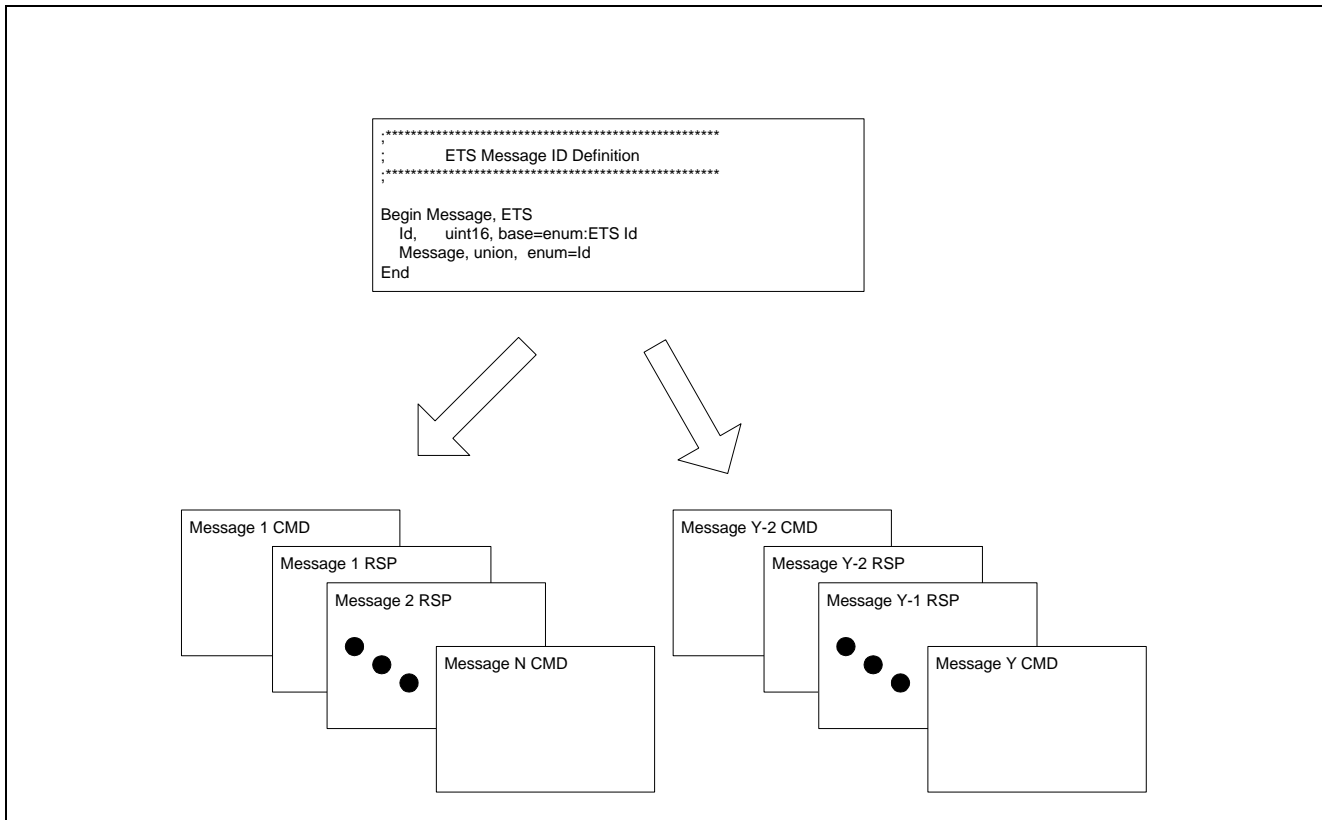
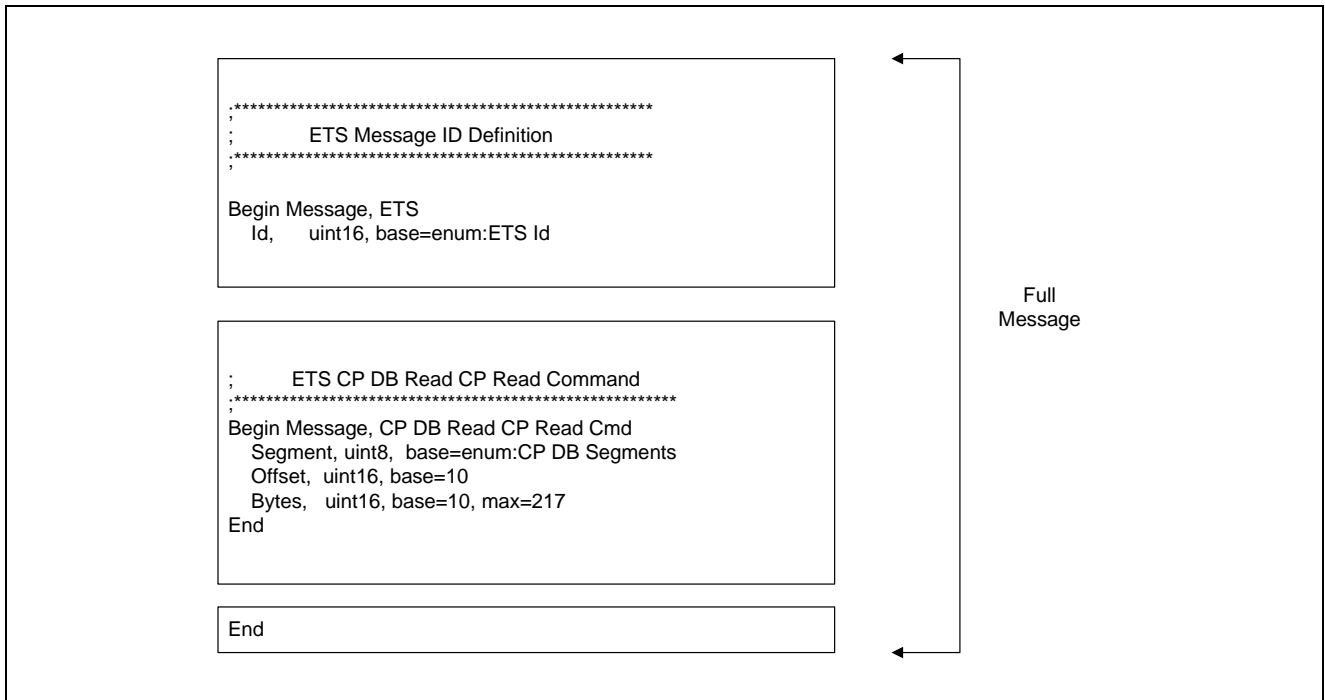

Figure 5. Message with Union Field
Figure 6. Message with Union Submessage Substitution
The union field type is used to cluster submessages under a parent message. As Figure 5 below indicates, the union field represents multiple submessages that can be appended to the parent message. Each submessage takes the place of the union field to form the full message (see Figure 6 below). Messages with union fields have the following rules:
1. The union field must contain an enum field parameter that is used to identify the ID field in the message that contains the submessage ID. In Figure 5, that field is the "Id" field.